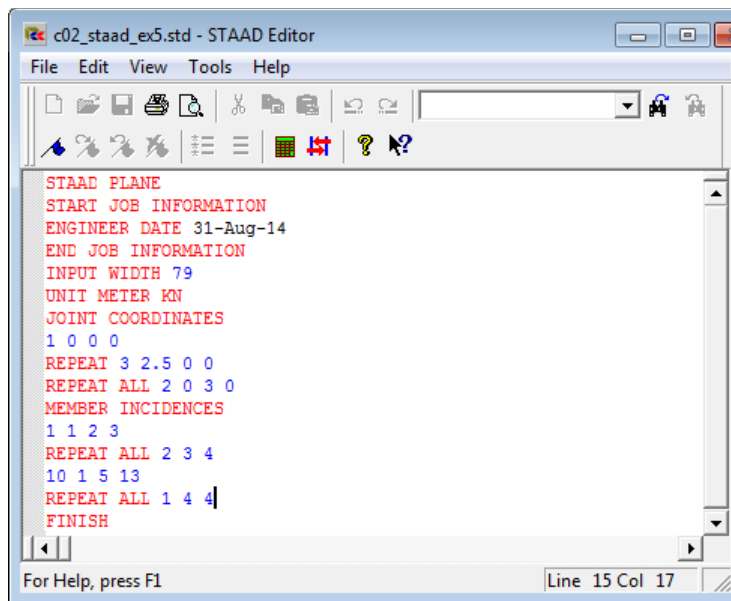

Figure 2-16 Commands for creating nodes and members
Step 1: Create a new file in STAAD.Pro with the name *c02_staad_v8i_ex5* and invoke the **STAAD Editor** window, as discussed earlier. Specify the commands to create nodes and members, as shown in Figure 2-16.